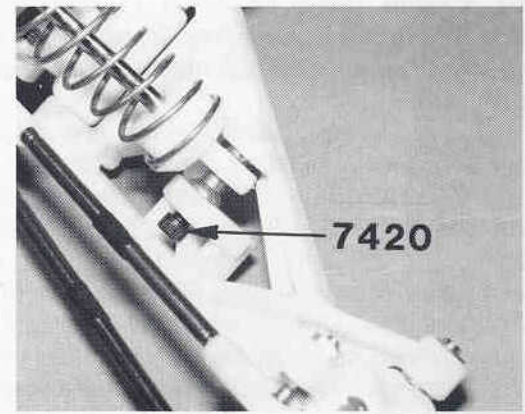
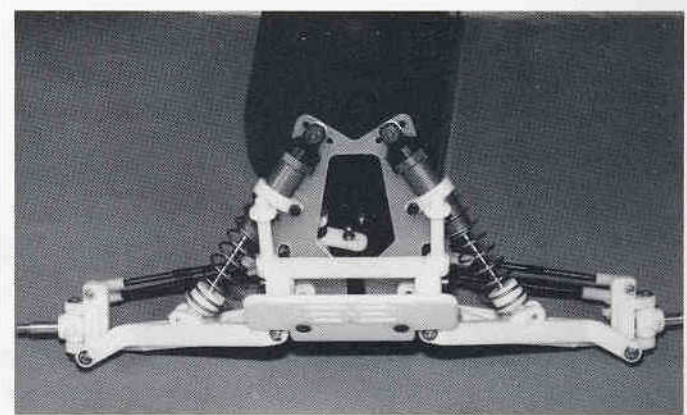
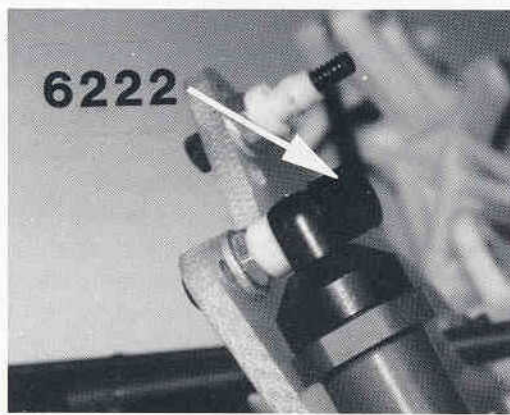

Fig. 174
Fig. 175
Fig. 173
□ **Figs. 173, 174 & 175** (1) Slide the shock cap eyelet onto the #6473 shock bushing, fig. 173. (2) In bag #7-10 remove two #6222 4-40 black self threading nylon nuts. Thread one of the nuts onto the upper shock mounting screw, fig. 173. (3) Screw the #7420 4-40 x 5/8" screws from bag #7-1 into the front A-arms, fig. 174. Slide the shock pivot ball, on the bottom of the shock, into the front suspension arm mounting slot, fig. 174. The suspension arms have two mounting locations; use the one closest to the chassis. The flat side of the pivot ball is to be towards the rear of the A-arm. (4) Now install one of the #7874 screws from the back side of the A-arm through the pivot ball, and then thread it into the front of the suspension arm. (5) Now do the other front shock. Fig. 175 shows both front shocks installed.